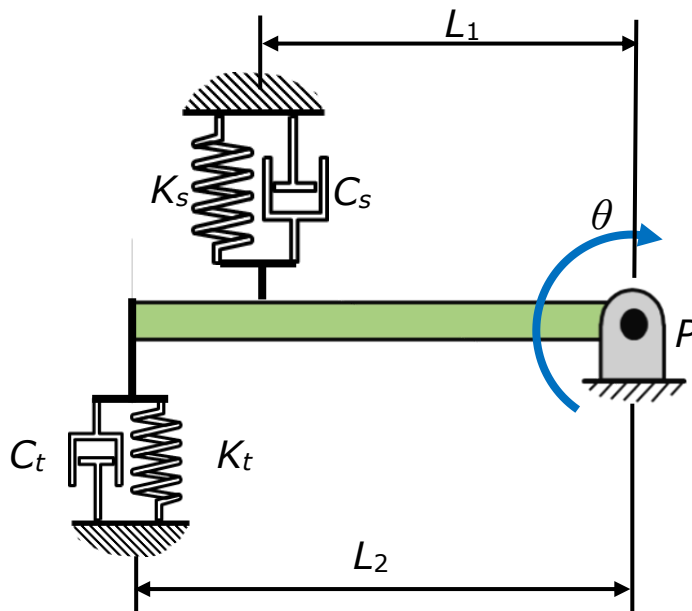

Figure Q5
5. FIGURE Q5 shows a Single Degree of Freedom dynamic mass-spring-damper system acting through pivot, P, with damping and spring elements as shown. Data values are: